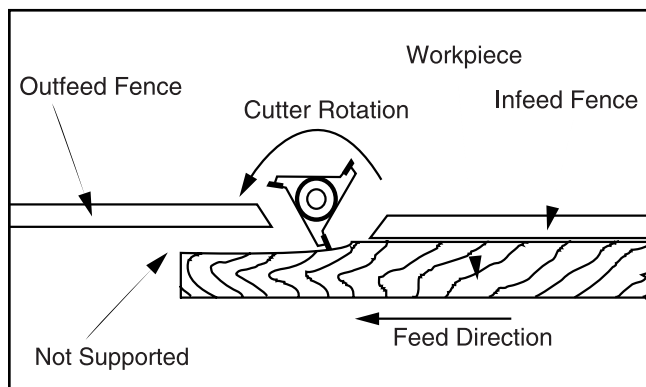
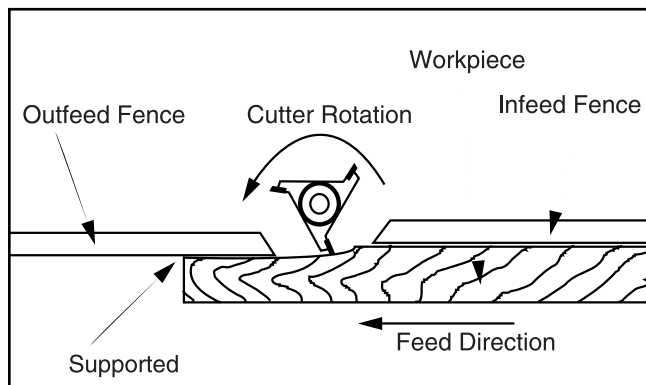

Figure 14. Improper fence adjustment.
Figure 15. Proper fence adjustment.
6. When the cutter comes to a complete stop, adjust the outfeed fence to support the new profiled edge. Lock the outfeed fence into position and retest. See **Figure 14** and **Figure 15** for improper and proper outfeed fence positioning.